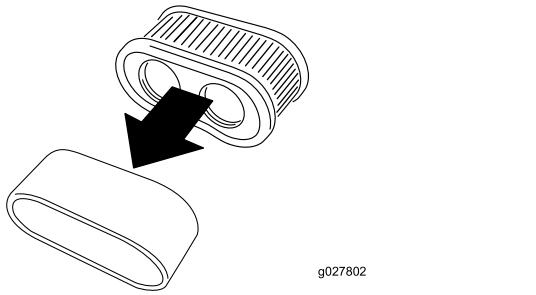

Figure 34
- Remove the foam element from the paper element (Figure 34).